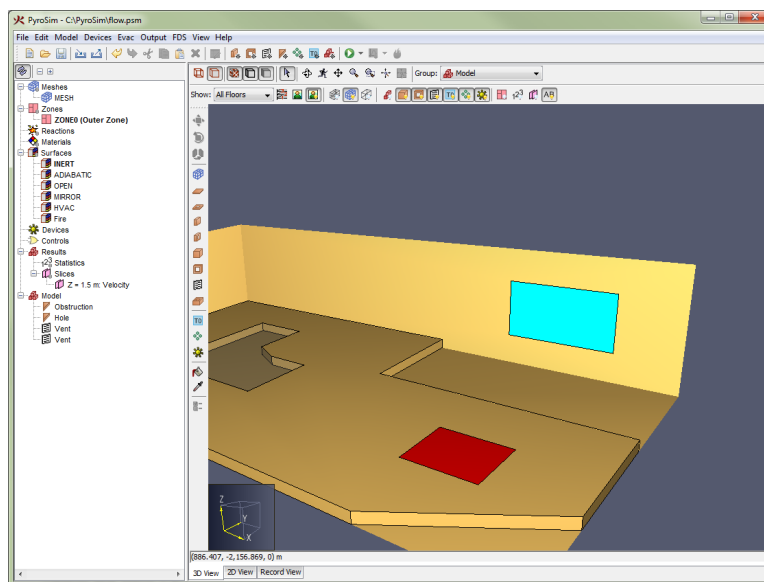

Figure 44. Vents on a mesh boundary and obstruction
**Vents** have general usage in FDS to describe a 2D rectangular patch on the surface of a **solid** obstruction or on a mesh boundary as shown in Figure 44. A **vent** may have a different surface applied to it than the rest of the obstruction to which it is attached.